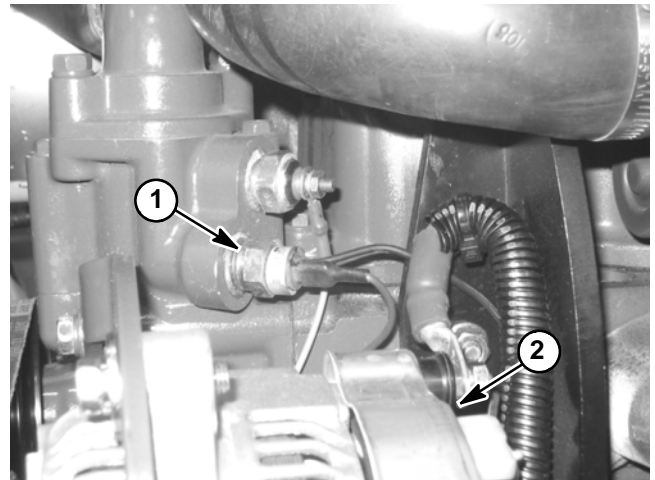

Figure 43
The dual temperature switch is attached to the engine near the alternator on the water flange attached to the engine cylinder head (Fig. 43). Two (2) electrical harness wires (a blue wire and a yellow wire) are attached to the switch.